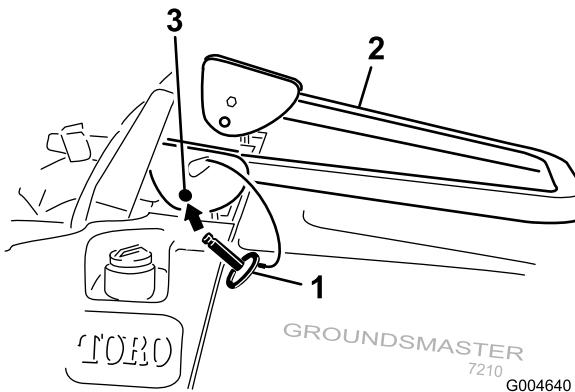

Figure 43
- Lower the roll bar to the down position (Figure 43).